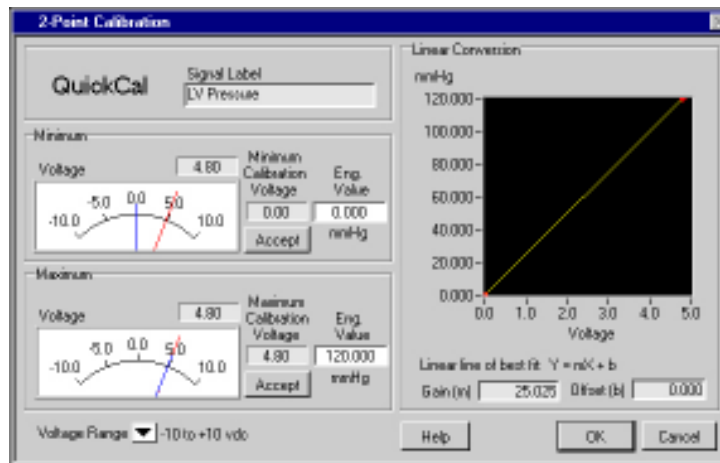

Figure 2-5. Two-Point Calibration Dialog Box
- **Calibrate**—This button opens the 2-Point Calibration dialog box, shown in Figure 2-5. You can use the two-point calibration routine to determine the Signal Voltage Range that applies to the Scaling Min, Max (egu) values. For more information, refer to the next section, Two-Point Calibration Routine.